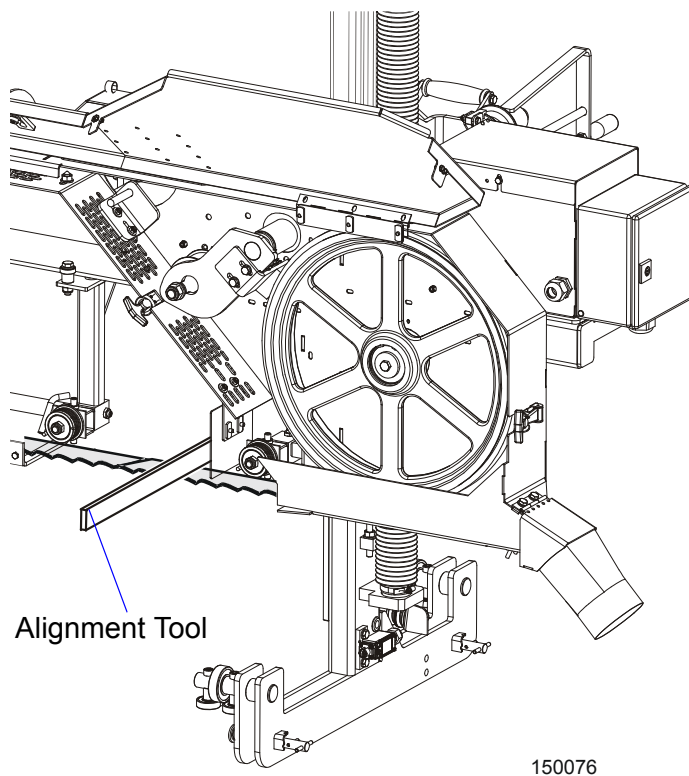

**FIG. 3-5**
idle-side blade wheel. See Figure 3-5.
**See Figure 3-5.** To tilt the idle-side blade wheel up, loosen the bottom adjustment screw 1/2 turn. Loosen the nut on the top adjustment screw and tighten the screw. Tighten the top and bottom nuts.